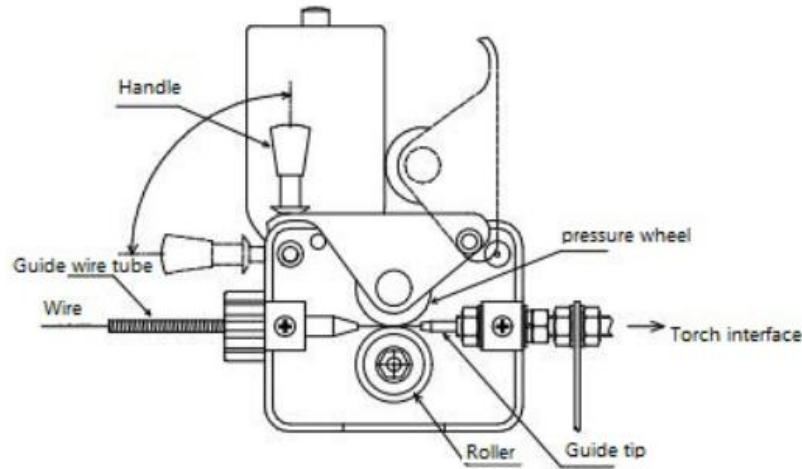

FIG 9. Wire Installation Drawing
A. Installation of electrode wire (see figure 9 as reference)